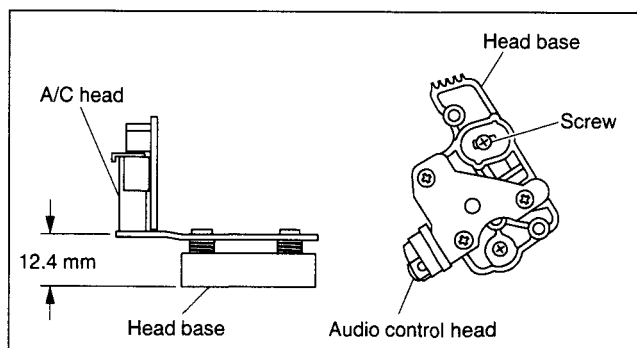

Fig. 2-2-15
- (1) To make the post-installation adjustment easier, set the temporary level as indicated in Fig.2-2-15. Also make sure that the screw centre is brought into alignment with the centre position of the slot.